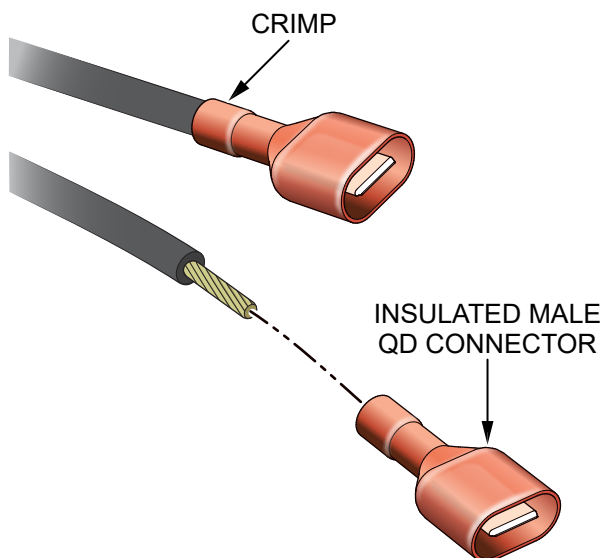

Figure 9. Crimp Connectors Onto Wires
10. Insert the end of one of the stripped wires into an **insulated male quick-disconnect (QD) connector** (provided in kit) and crimp. See Figure 9.
11. Insert the end of the other stripped wire into an **insulated male QD connector** (provided in kit) and crimp. See Figure 9.